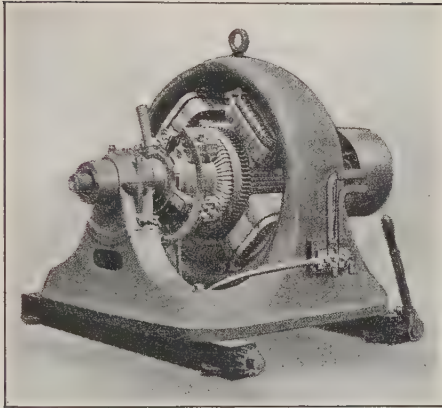

FIGURE 368. — ELECTRIC MOTOR.
**235. Electric Motor.** — Any one examining an electric motor is immediately struck with the fact that it is largely composed of insulated wire, wound on various pieces of iron, in other words, that it consists largely of electromagnets. These electromagnets consist: (1) of the *field magnets*, whose windings are placed on *pole pieces* projecting from the stationary outer frame of the motor; (2) of the *armature*, an iron core mounted to rotate within the pole pieces and having windings running lengthwise on it (Figure 368). As